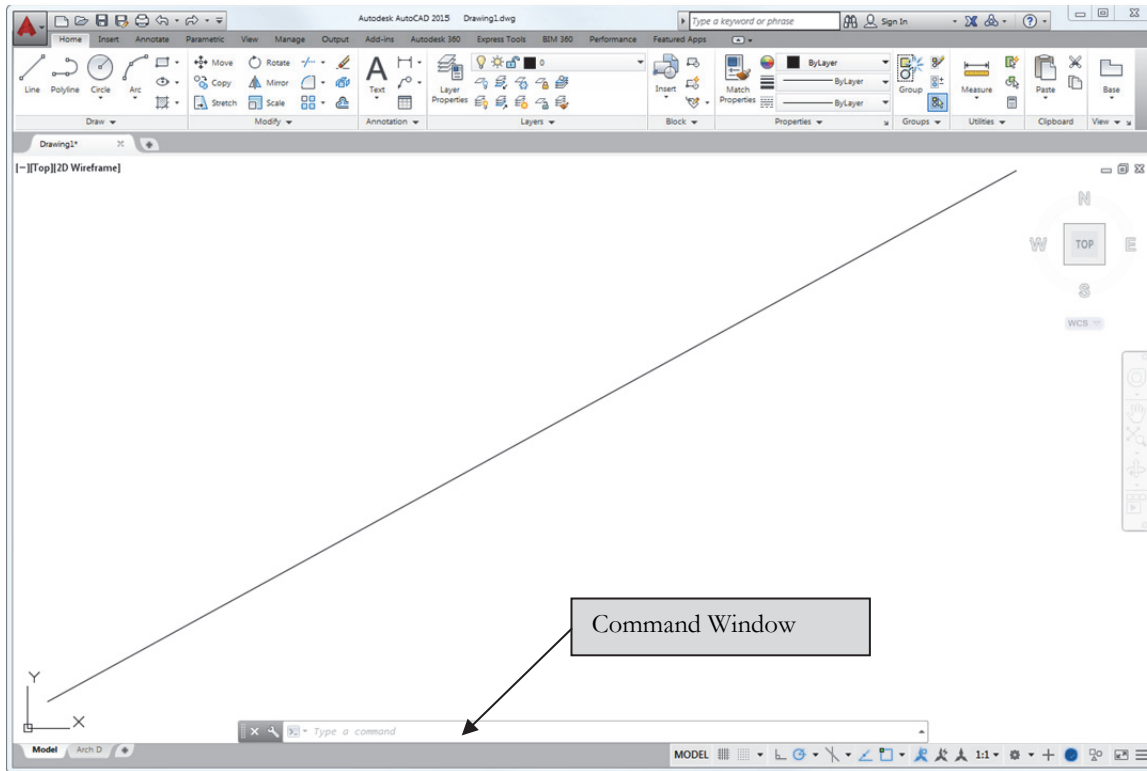

FIGURE 2-1.4 Your first line!
9. **Draw a line** from the lower left corner of the screen to the upper right corner of the screen (by simply clicking two points on the screen); see **Figure 2-1.4**.